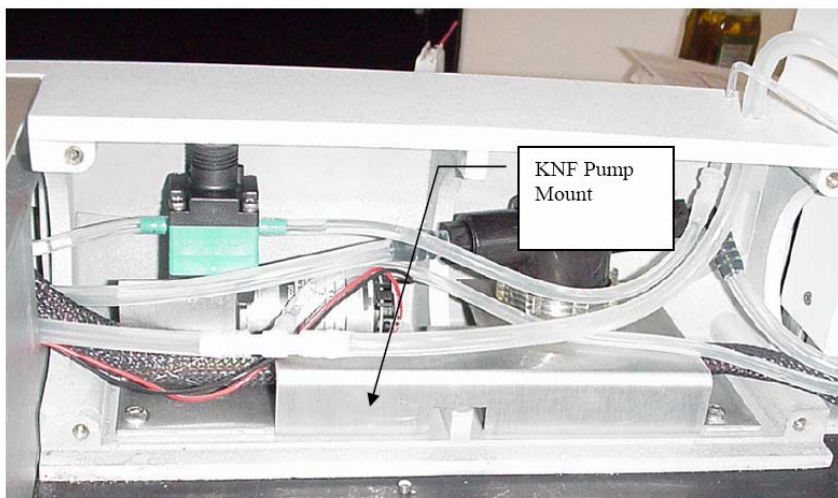

Figure 1 KNF Pump inside left enclosure with pump mount
1. Remove the KNF Pump Mount with KNF pump from the left side enclosure (see figure 1).